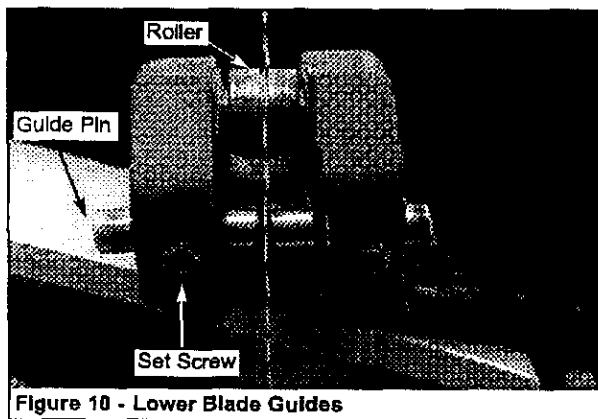
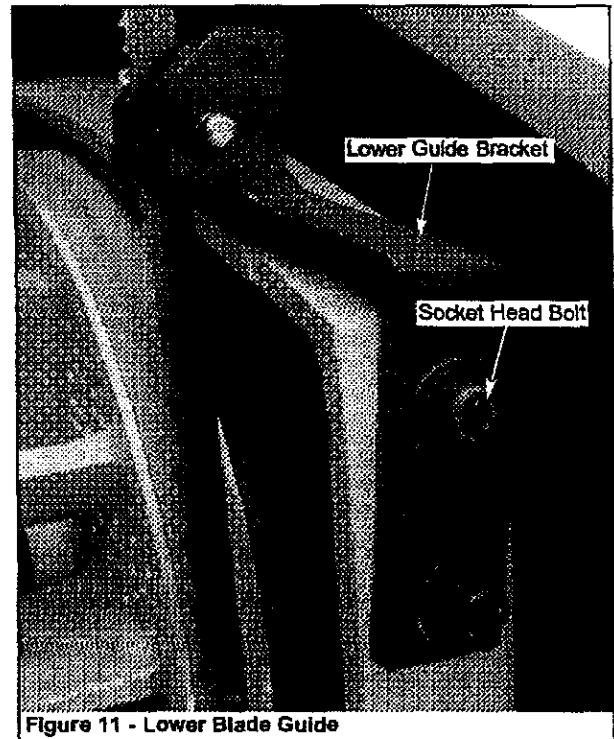

Figure 10 - Lower Blade Guides
Figure 11 - Lower Blade Guide
- Loosen set screws (see Figure 10) and move guide pins away from blade sides.
- Loosen socket head bolts (see Figure 11) and adjust lower guide bracket position so that rear of blade is positioned inside the groove of roller (see Figure 10). There should be 0.002" clearance between blade and roller.
- Tighten socket head bolts (see Figure 11).
- Adjust guide pins (see Figure 10) to sides of the blade. Use a feeler gauge to check that guide pins are 0.002" away from blade.
Refer to Figure 10.